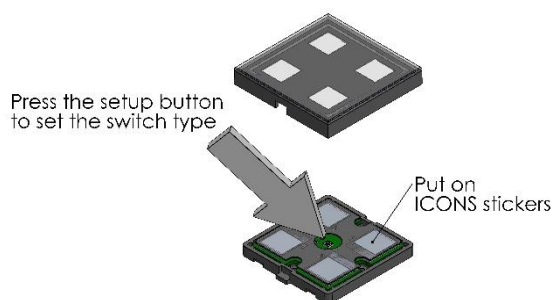

Fig. 4 Setup button & put on icons sticker
Make sure required devices and power supply are connected completely before setting. Press the setup button on Touch Panel (Fig. 4) and all indicator lights start flashing. Then tap each switch to change/choose the indicator color and its function. Once decision is made, press the setup button again. All indicator lights stop flashing, and the setup process is done. Different indicator colors represent different switch functions.
4. Once setup is done, apply suitable icons stickers on the switches (fig. 4) then put the front cover on. Make sure to remove the protective film on the top of the switch and the front cover.